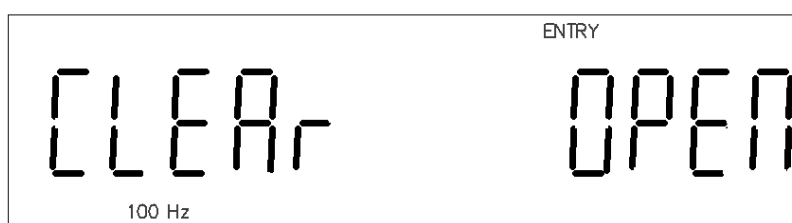

Figure 3-2 Open Correction
3. If the fixture is open, the information shown in Figure 3-2 will be displayed. "**ENTRY**" is lighted, which means the instrument is under the input status. Input key functions of **[ESC]**, **[ENTER]**, **[◀]**, **[▶]**, **[▼]**, **[▲]** are enabled.